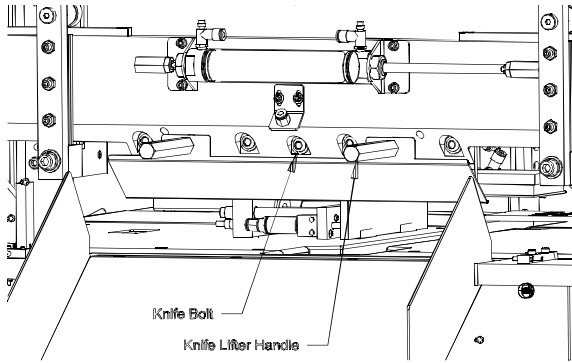

Figure 4-7. Knife Bolt Locations
6. Place the knife lifter on top of the knife bar and align each lifter handle with the holes from which the two knife bolts were removed in the previous step. Turn the handles clockwise until the lifter is securely fastened to the knife bar as in Figure 4-7.
7. Use the T-handle wrench to remove the remaining (5) knife bolts. Save the bolts with the two previously removed.